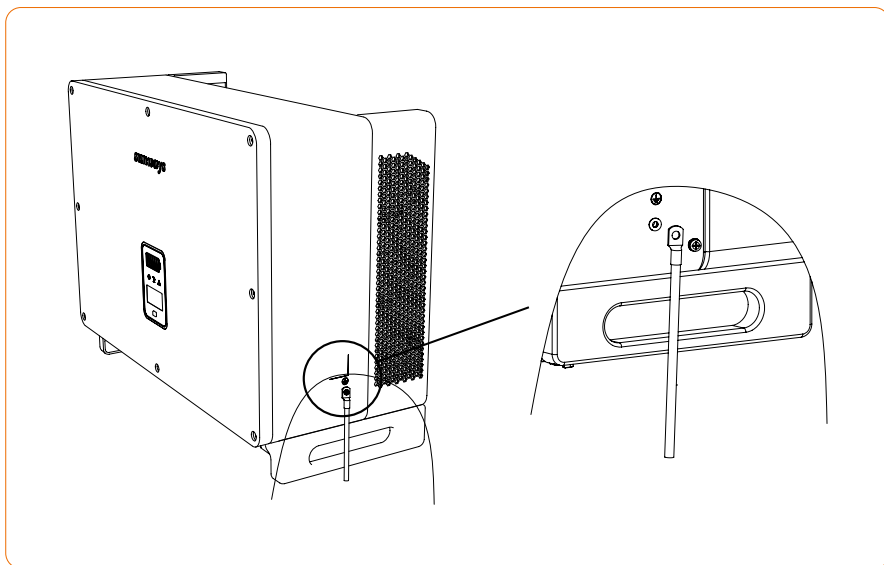

Figure 4-11 Grounding terminal connection
- 2) Fix the grounding terminal to the PE wire with a proper tool and lock the grounding terminal to the grounding hole in the lower right side of the inverter, as shown in Figure 4-11.